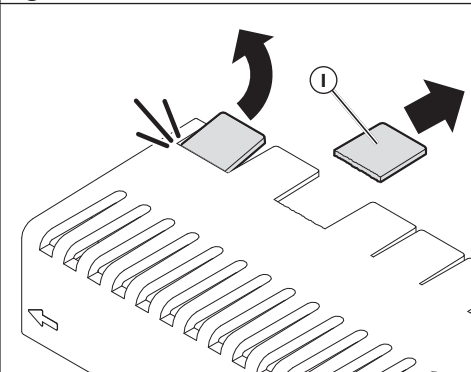
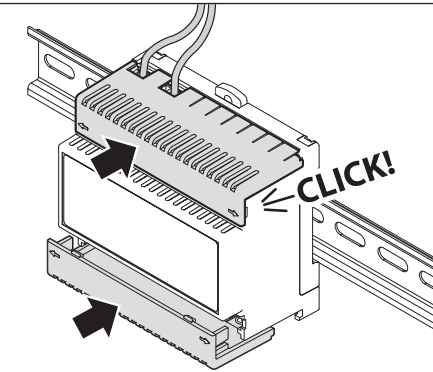

Fig. 7
Fig. 8
6. Break the flaps **I** of terminal covers you prefer to pass the cables (Fig. 7), then replace the terminal covers **G** pushing them back until you hear a **CLICK!** (Fig. 8)